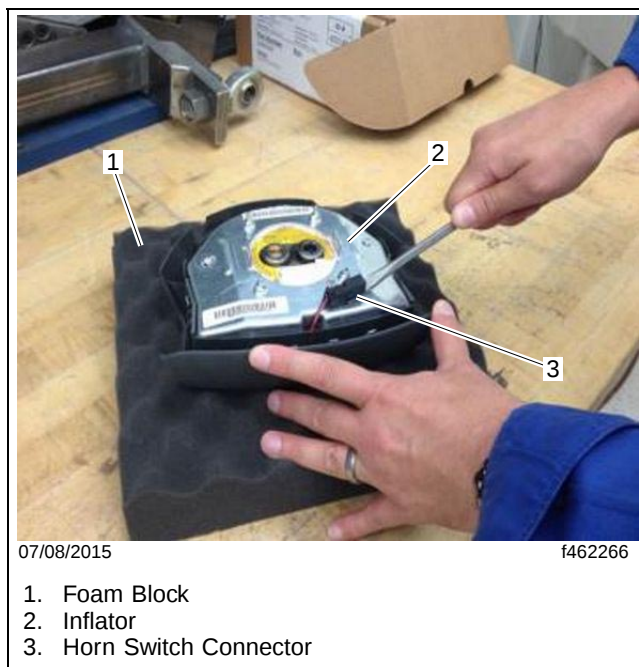

Fig. 3, Unclipping the Horn Switch Connector
8. Remove the driver air bag from the steering wheel. Fig. 3.